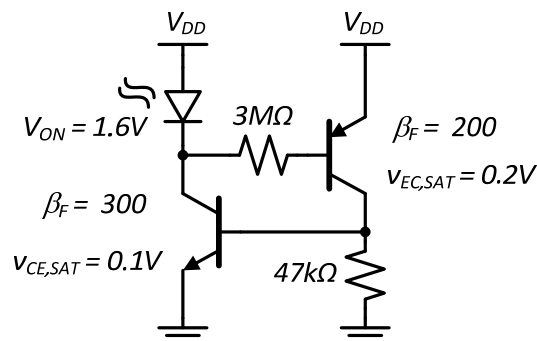

Figure 7. Bi-stable LED circuit.
- P3.1** The circuit used to bias the LED is shown in Figure 7. This circuit has two stable modes of operation: 1) LED on and, 2) LED off. Solve for the base and collector currents in the PNP transistor in both modes of operation when $V_{DD} = 1.7V$. Also, identify the regions of operation of the NPN and PNP in both modes. $|v_{BE,ON}| = 0.6V$ for both the NPN and PNP assuming the CVD model for the B-E junctions. Assume the CVD model for the LED with $v_{ON} = 1.6V$.